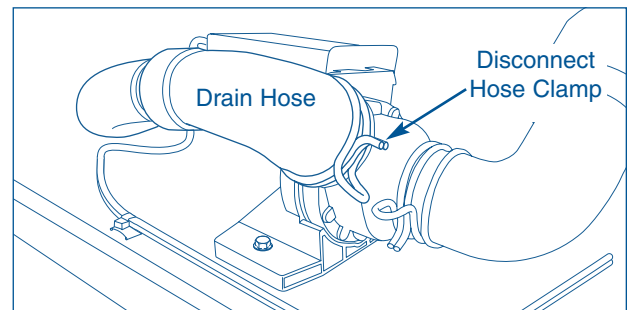

Figure 4-36.
2. Using a pliers, compress the hose clamp from the outlet hose of the drain pump and disconnect. (See Figure 4-36)